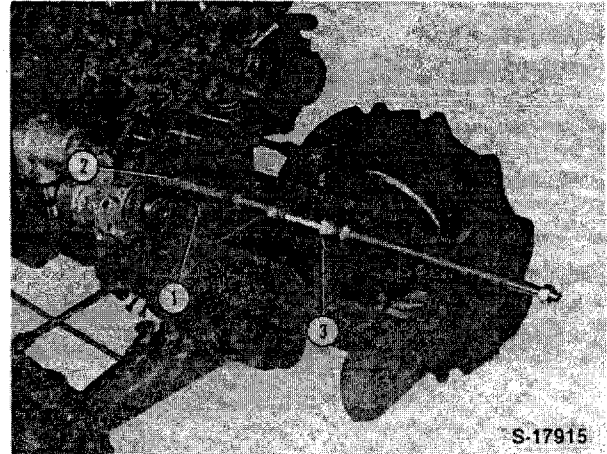

Figure 40
- Using a special tool place the collars in the grooves of the port block assembly. Align the set screws of the puller with the counterbores in the collars and tighten. Using a slide hammer as shown, Figure 40, remove the port block assembly.